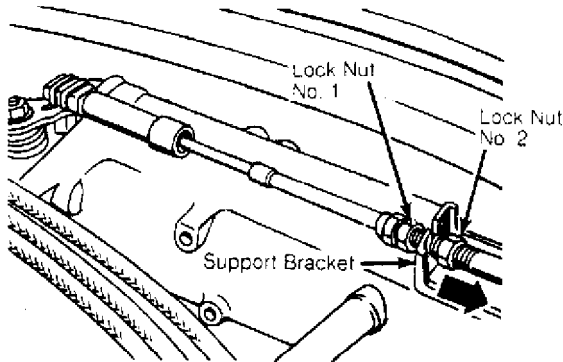

Fig. 4: Adjusting Throttle Cable (All Except Quantum & Vanagon)
2) Loosen lock nuts on throttle cable support bracket. Push throttle cable sleeve in direction of arrow until there is no play. See Fig. 4.